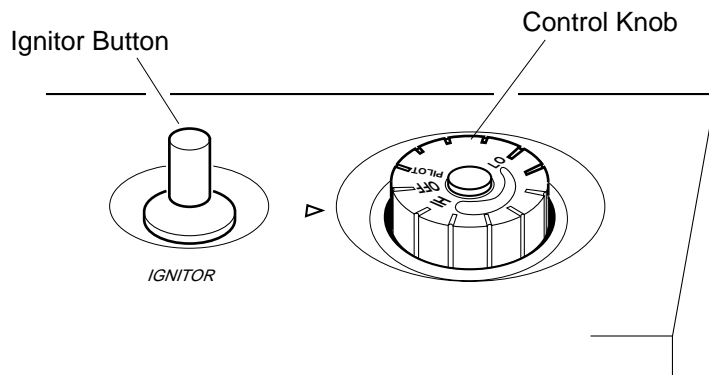

Figure 16 - Control Knob In The OFF Position
4. Wait five (5) minutes to clear out any gas. Then smell for gas, including near the floor. If you smell gas, STOP! Follow “B” in the safety information at the top of page 17. If you don’t smell gas, go to the next step.
5. Turn control knob counterclockwise ↺ to the PILOT position. Press in control knob for five (5) seconds (see Figure 16).